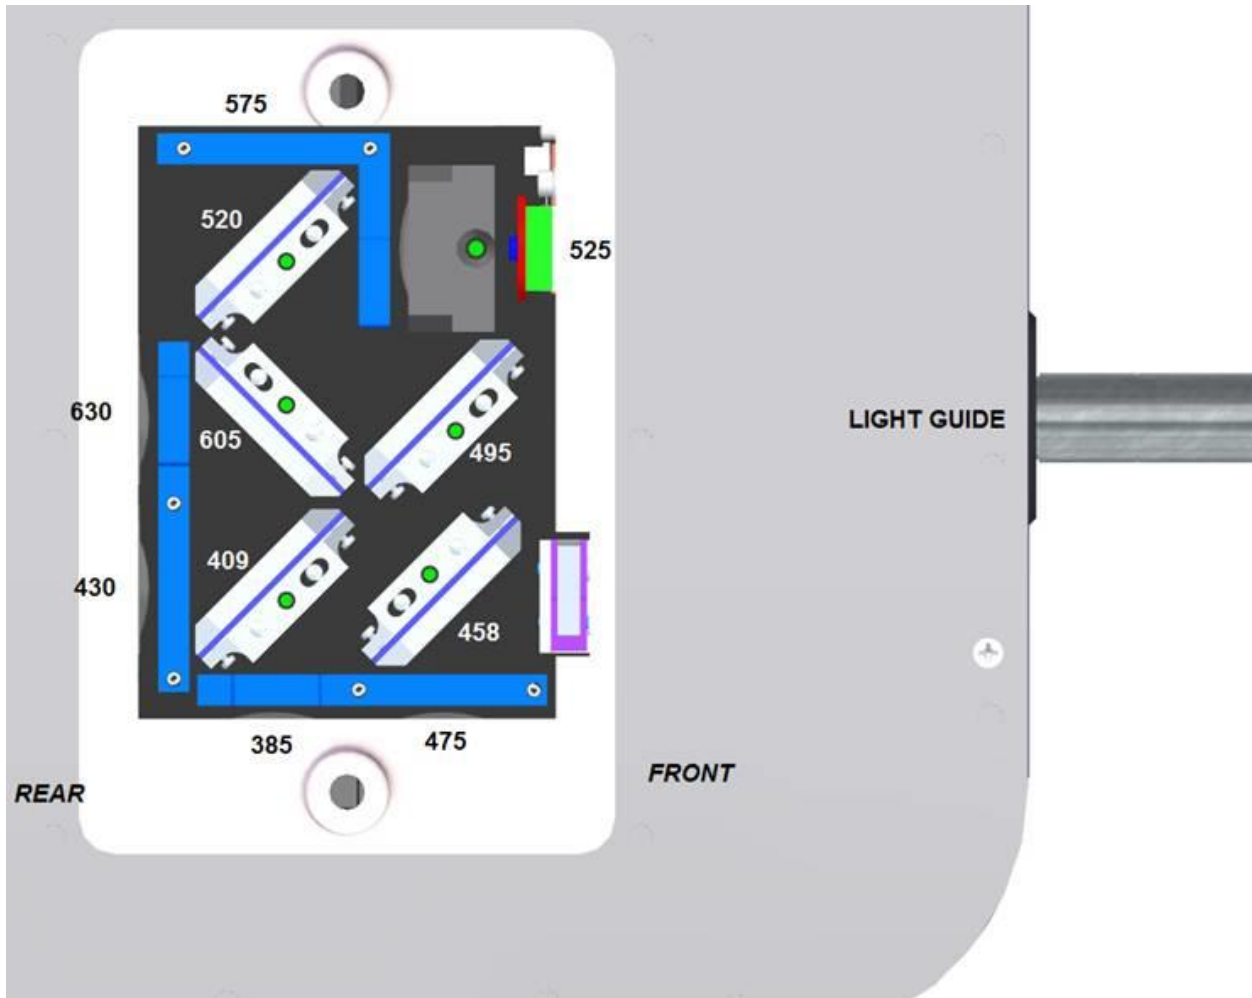

Figure 3 LED and Dichroic Internal Layout
The LEDs (black numbers) and the dichroics (white numbers) that combine them are positioned as shown in Figure 3.
- b. Refer to Figure 3 to determine location of specific LEDs.